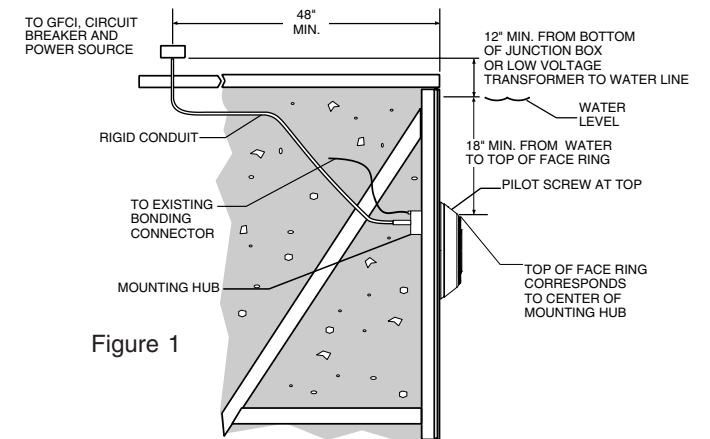

Figure 1
A. Preparatory steps which must be completed by the electrician before light is installed, see Figure 1.
- b. The junction box (or, for 12 volt models, the low voltage transformer) is located at least 12 inches above water level, and at least 48 inches from the edge of the pool, see Figure 1.
- c. The light fixture and all metal items within five (5) feet of the pool must be properly electrically bonded.
- d. The mounting bracket and mounting hub must be properly installed so that the top edge of the face ring of the Nicheless Light is at least 18 inches below the surface of the water in the pool. The top of the face ring will line up with the center of the Plastic Mounting Hub, see Figure 1 on page 3.